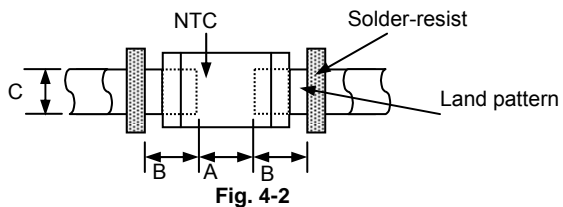

Fig. 4-2
- Recommended PCB pattern for reflow soldering: See **Fig.4-2** and **Table 4-1**.